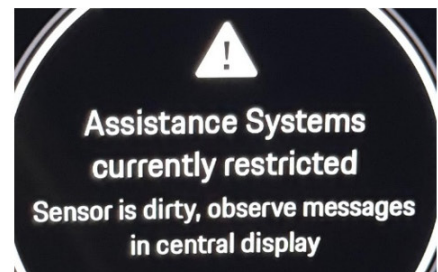

Figure 6
- d. The third white warning of Figure 6 of "**Assistance Systems currently restricted**" always accompanies one of the other listed white warnings.